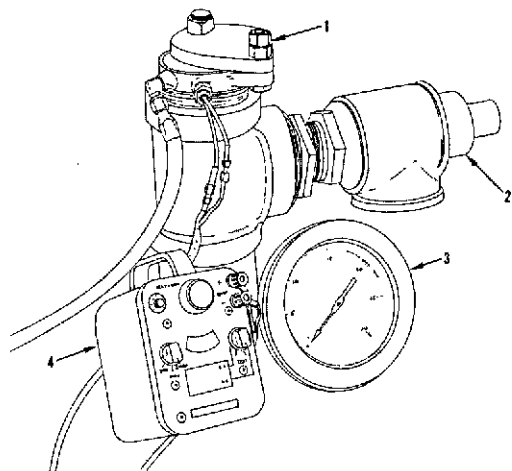

Fig. 2-13, N11834. Pressure adapter tool (with gauges) mounted to vehicle
- a. Place ST-1167 Pressure Adapter Tool (1, Fig. 2-13) on discharge pipe and connect a pressure gauge (3), pyrometer (4) and temperature thermocouple.